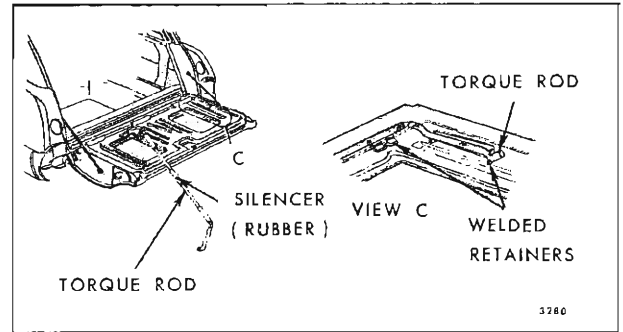

Fig. 9-51—Tail Gate Torque Rod Assembly
3. Disengage torque rod from tail gate inner panel retainer (See Fig. 9-51).